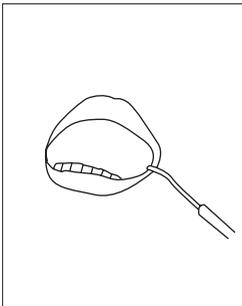

Fig.20
- 4) Link the lip clip to the patient's lip; instead the patient may hold the lip clip firmly in the hand.(Fig.20)